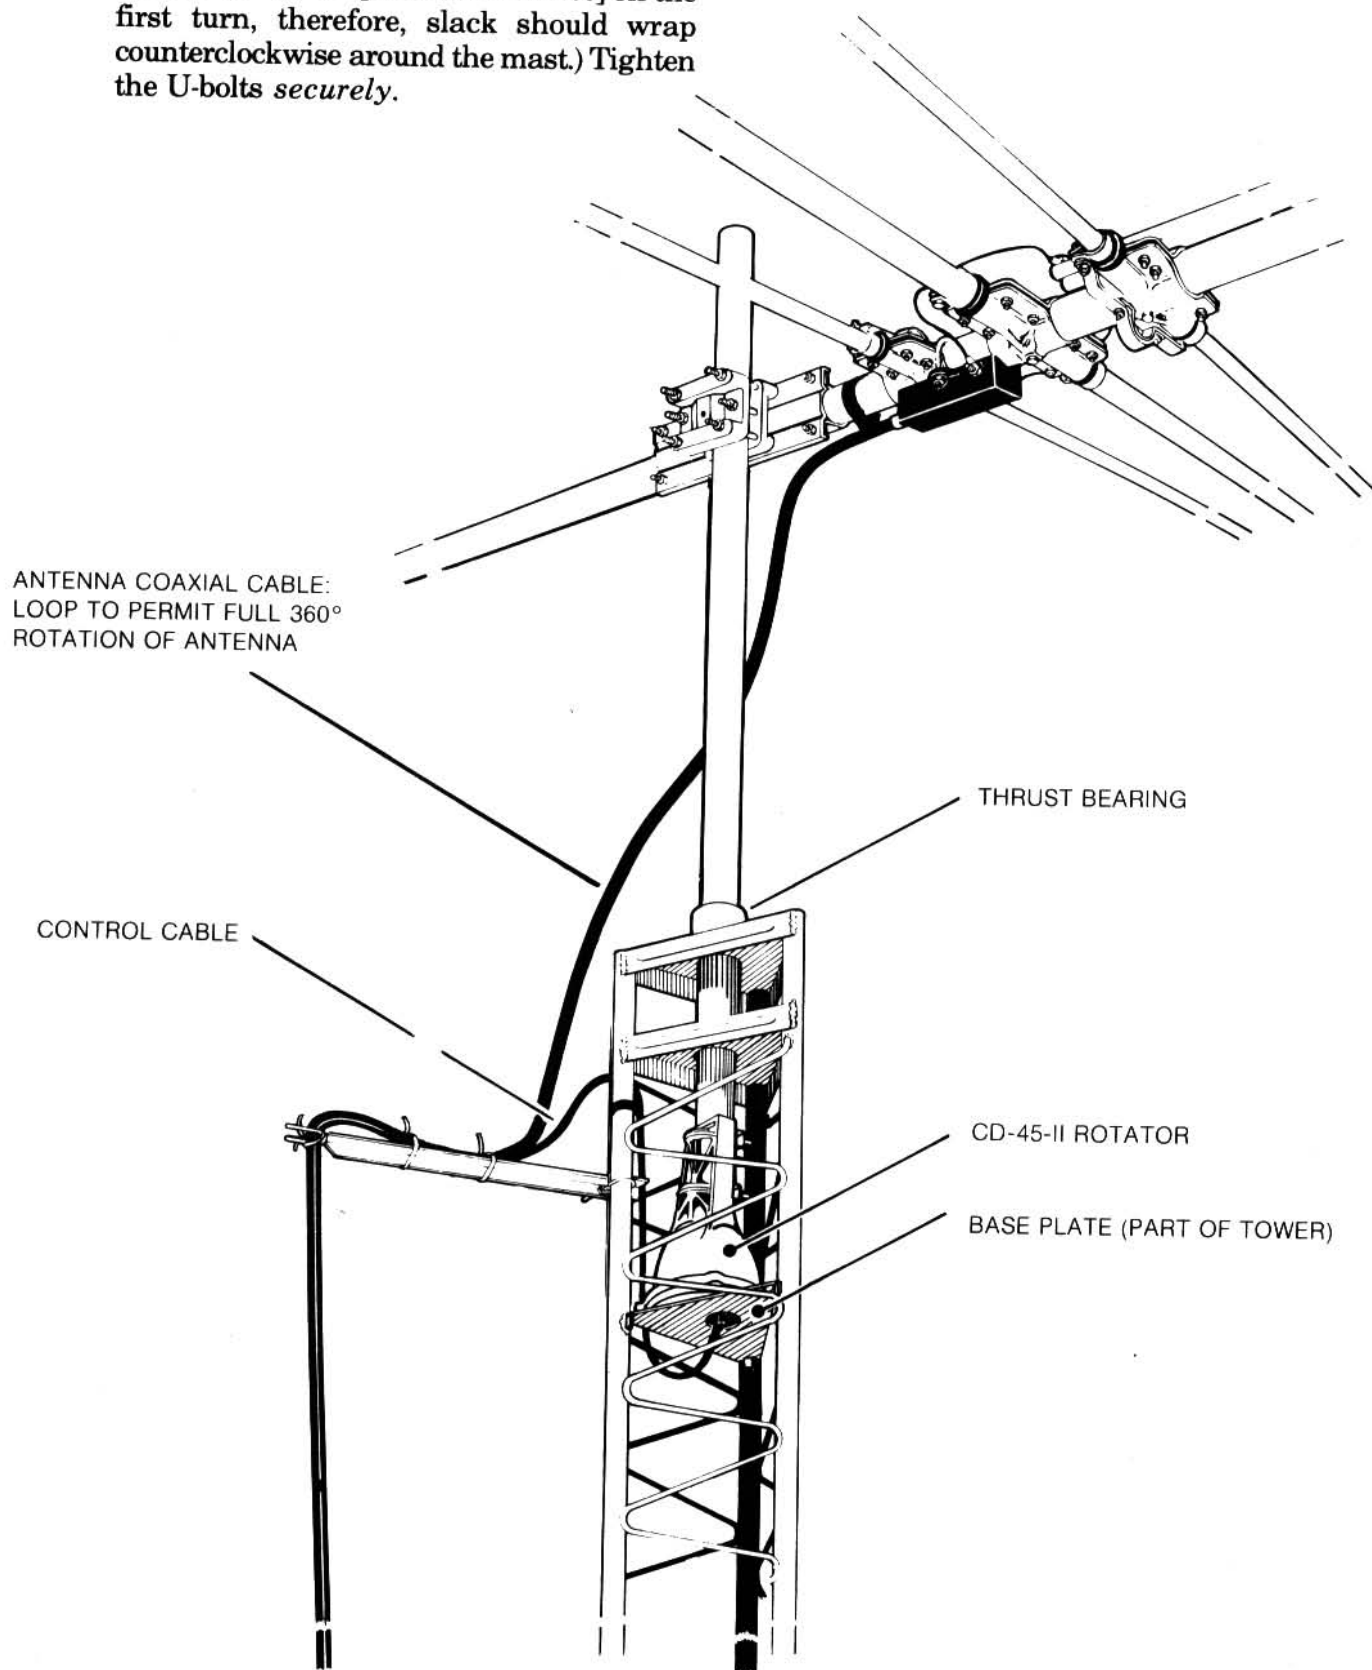

Figure 3
- D. When not mounted within a tower with a thrust bearing as shown in Figure 3, the rotator must be *derated*.
There are three general types of installation (see Figures 3, 6 and 7).
1. The recommended installation is an "Inside" Tower Mount, as shown in Figure 3, with a top bushing or bearing to provide lateral support and resist high wind loads.
There are variations of mounting falling generally into one of the above categories. For example, the rotator may be mounted lower in the tower than shown in Figure 3. In that case, more than one bushing or thrust bearing for the beam mast may be required and longer coast down time allowed in operation. These factors are interrelated and the components must be matched together.
The rotator is mounted inside a tower (see Figure 3) to the flat tower plate by means of four (4) bolts furnished in the hardware kit. Use the following procedure:
7. Tighten the four (4) bolts carefully—to approximately 100 inch-pounds of torque.
8. Return the rotator to the full CW "S" position. Mount the beam pointing South. The coaxial cable should be looped as per Figure 3, in such